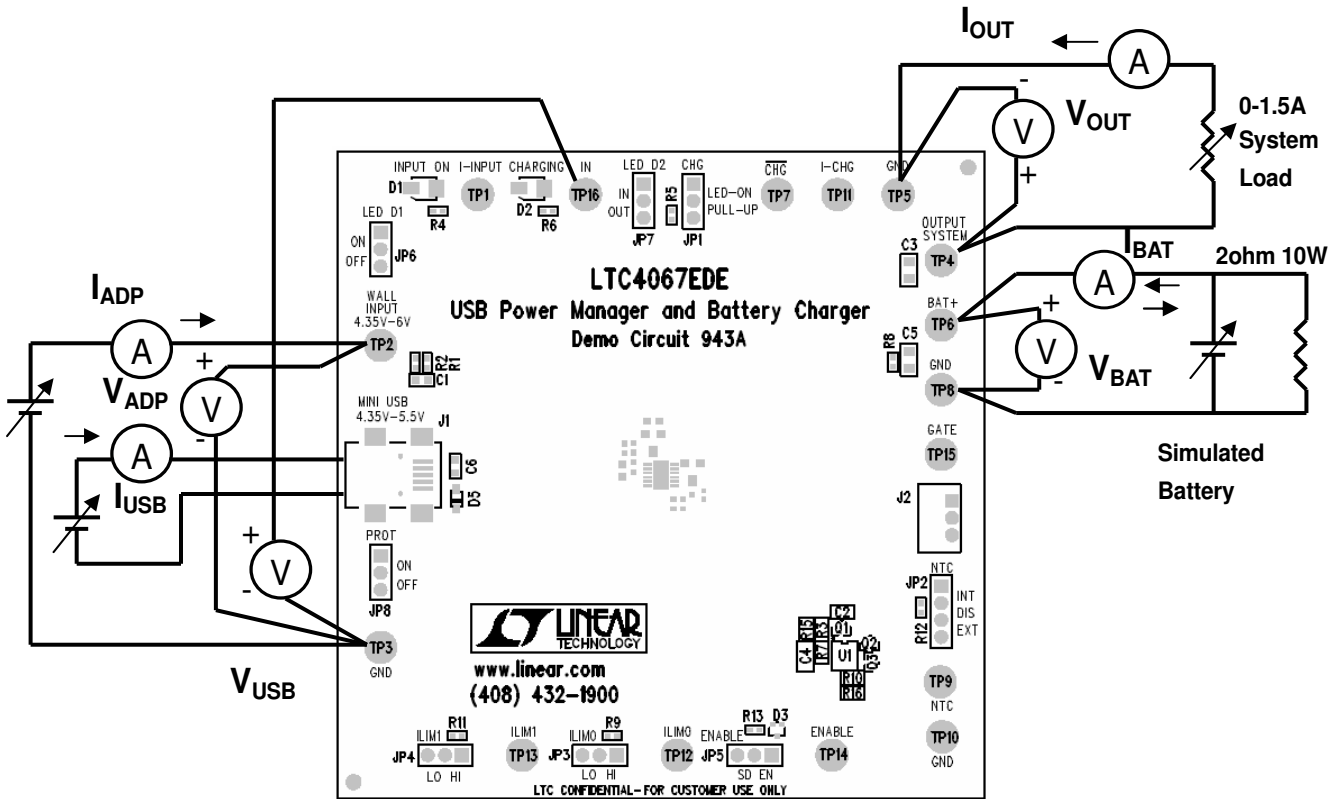

Figure 1. Proper Measurement Equipment Setup
Demonstration circuit 943 is easy to set up to evaluate the performance of the LTC4067. Refer to Figure 1 for proper measurement equipment setup and follow the procedure below:
1. With power off, connect the input power supply, meters and output load as shown in Figure 1. For the USB input, use an adjustable 0-5V 0.5A power supply and a cable with a USB Mini-B connector that plugs into J1. For the wall adapter input, use a 0-10V 2A adjustable power supply. For simulating the battery, use a 0-5V adjustable power supply that can deliver at least 3A, in parallel with a 2 $\Omega$  10W power resistor. Attach a 0-1.5A adjustable load to the System Output.